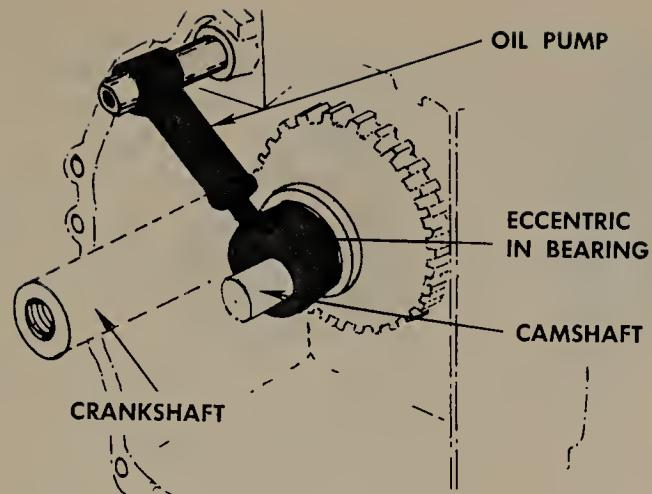
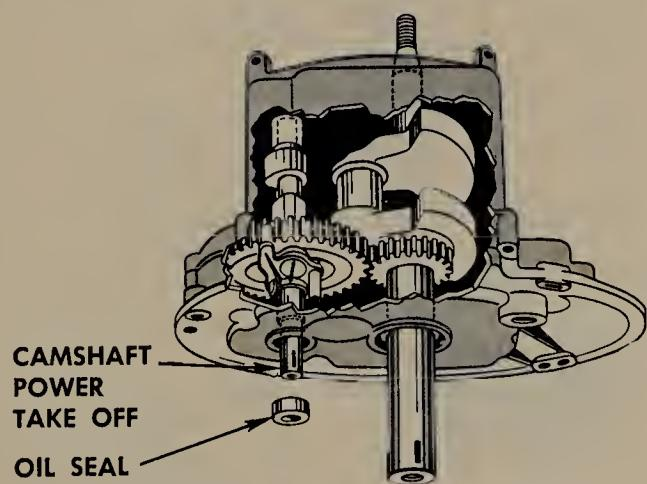

FIGURE 16.67 Oil pump driven by an eccentric on the camshaft. (Tecumseh Products Company.)
FIGURE 16.68 Engine partly cut away so the crankshaft and camshaft with power takeoff can be seen. (Wisconsin Motor Corporation.)
16.19 Camshaft Service. In addition to having a pair of cams to operate the valves, camshafts may also have an eccentric to operate the oil pump, as shown in Fig. 16.67. The action of this pump is shown in Figs. 6.4 to 6.6. Some camshafts also include an automatic compression release device which is discussed in Sec. 4.8. See Fig. 4.12. In addition, some earlier Kohler models had the ignition breaker-point cam on the camshaft mounted through a centrifugal advance mechanism. This provided an ignition retard during cranking so as to avoid kickback. After the engine started, the ignition would advance to the running position. Later models, using the automatic compression release, do not use this ignition advance mechanism. Also, some models have a power takeoff on the camshaft, as shown in Fig. 16.68. Some models also have a governor drive gear which drives an internal